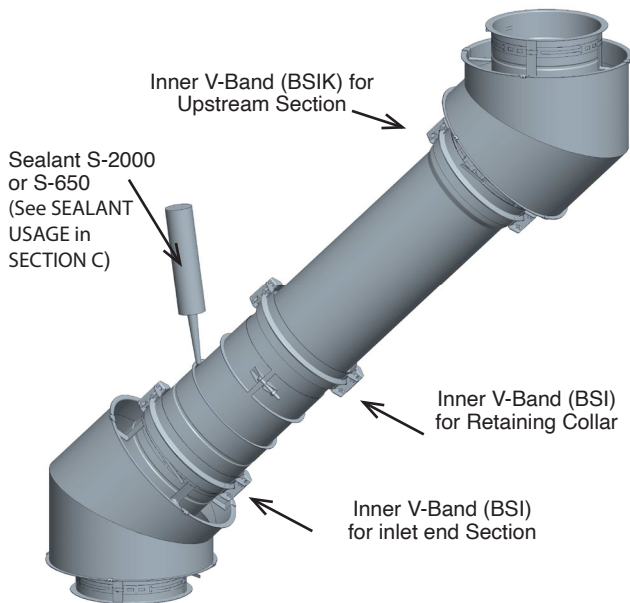

Figure 26 - Step 7-9 - Secure the Double Flanged Sleeve and seal the Retaining Flange Collar
9. Apply thin layer of sealant inside the retaining collar, and also a continuous bead of sealant at the collar overlap seam. See Figure 26.